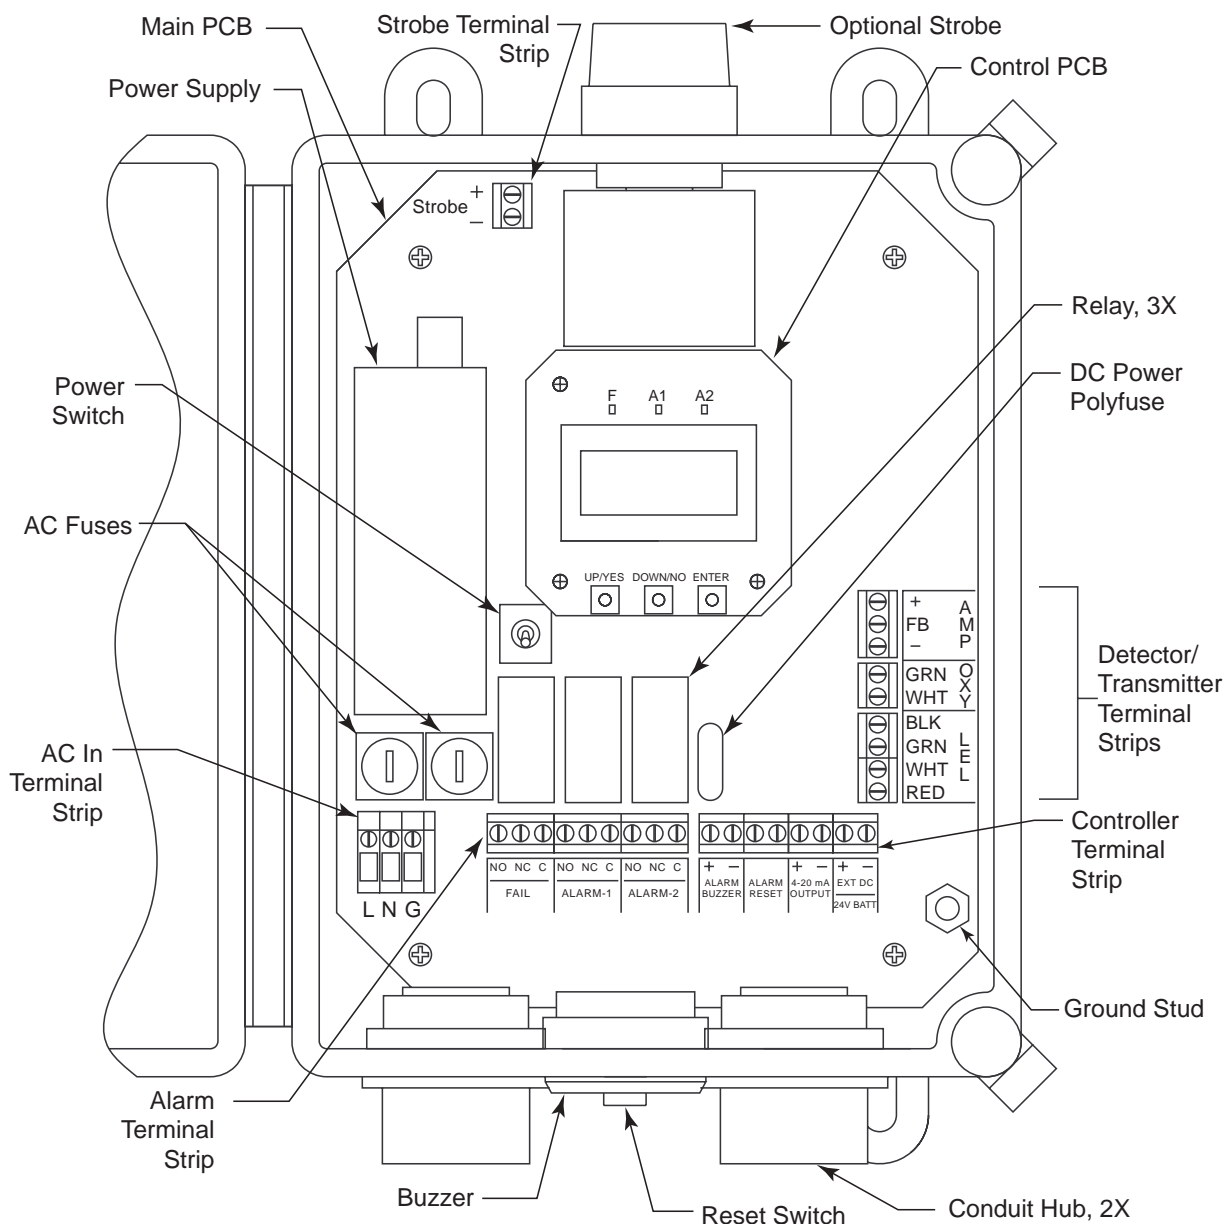

Figure 1: Beacon 110 Component Location
- **Alarm Terminal Strip.** The 9-point alarm terminal strip is located along the bottom edge of the main circuit board to the right of the AC in terminal strip (see Figure 1). It facilitates wiring external alarm devices (horn, strobe, etc.) to the alarm relay contacts and includes common (C), normally closed (NC) and normally open (NO) terminals for fail, alarm 1, and alarm 2.
- **Controller Terminal Strip.** The 8-point controller terminal strip is located along the bottom edge of the main circuit board to the right of the alarm terminal strip (see Figure 1). The controller terminal strip facilitates various internal and external wiring connections. Table 3 lists the function of each terminal.
- **Detector/Transmitter Terminal Strips.** Three adjacent terminal strips are located along the right side of the main circuit board above the controller terminal strip (see Figure 1). These three terminal strips facilitate wiring connections to a detector or a 4 - 20 mA transmitter. The lower 4-point terminal strip is labelled **LEL** and is used to wire a combustible detector. The middle 2-point terminal strip is labelled **Oxy** and is used to wire an oxygen detector. The top 3-point terminal strip is labelled **AMP** and is used to wire 4 - 20 mA transmitters or direct connect preamp type detectors. Although terminal strips are present for various types of detectors, only one detector head at a
The power switch is located to the right of the power supply and above the relays (see Figure 1). The power switch turns the incoming AC power source on and off at the Beacon 110. When the switch is up, the power switch is on.
The Beacon 110 includes three active status LEDs that are located above the display (see Figure 1). Two LEDs, labelled RX and TX, to the right of those described below, are not active.
4. Locate the 3-point AC in terminal strip in the lower left corner of the main PCB (see Figure 1). The terminals are labelled **L**, **N**, and **G**.